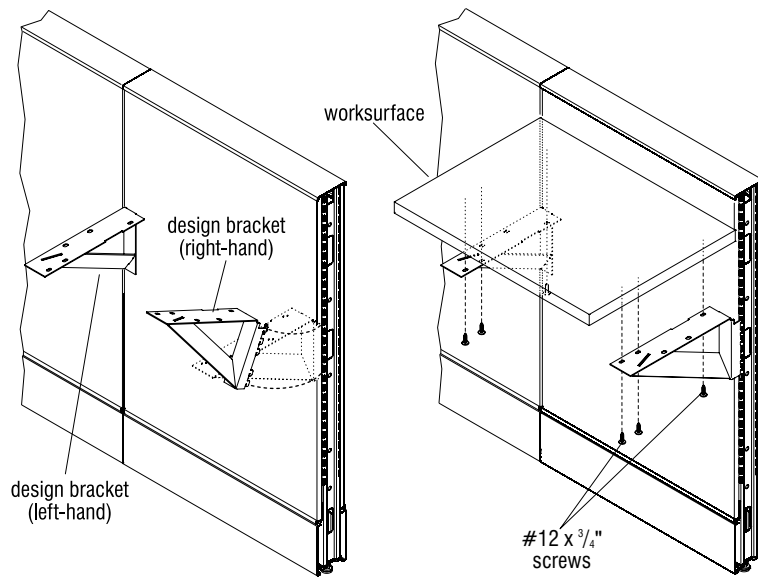

Figure 7 - Design Bracket & Worksurface Installation
1. Locate and identify right- and left-hand design brackets to be used. A right design bracket is used on the right side of a worksurface as you face the panel and the left-handed bracket is at the left. The outer face of an installed design bracket should appear flush with the edge of the panel surface and the mounting flange must face inward (Figure 7).
3. To install design bracket, first rotate the front of the bracket up as illustrated and insert the top, anti-dislodge tooth into the panel module slotting at the appropriate height. Push up when the top tooth is engaged, then rotate the bottom of the bracket down, engaging all remaining bracket teeth into the slotting. Ensure that all teeth are inserted firmly, then press bracket down to fully engage all teeth. If necessary, use a rubber mallet to gently tap the top of the bracket to firmly seat the teeth. Repeat the steps above for the second design bracket to be installed (Figure 7).
**Note:** When worksurfaces are installed adjacent to each other, right- and left-hand design brackets will be installed side-to-side with the flat faces mated (Figure 7).
4. Carefully place worksurface onto installed design brackets and align mounting holes of brackets to pre-drilled holes in underside of worksurface. Secure using two #12 x  $\frac{3}{4}$ " screws per bracket. Take care to not over-tighten the screws (Figures 7 & 8).